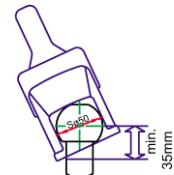

Fig. 1: ball bar, towing vehicle
**1.3** The ball coupling WS 3000 can only be used together with coupling balls corresponding to DIN 74058 / ISO 1103 when the neck is **free of fittings** over a distance of **35 mm**. ( Fig.1 )